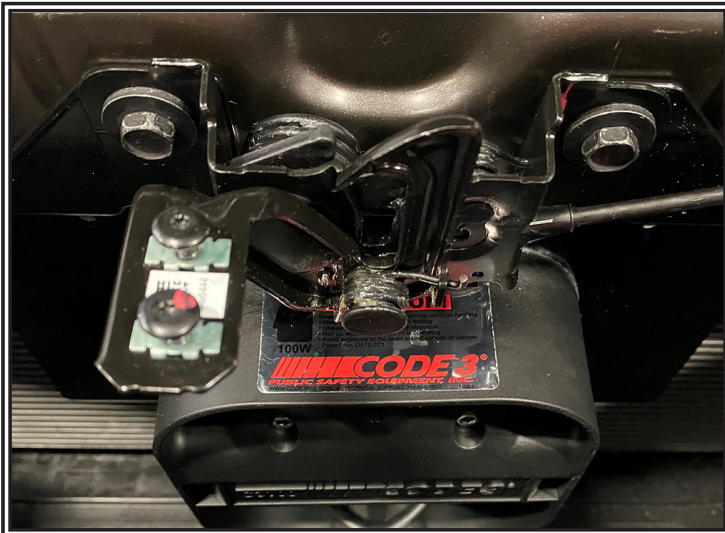

Figure 4
Step 4. Secure the mounting bracket into position using the screws removed in Step 2, as shown in Figure 4.